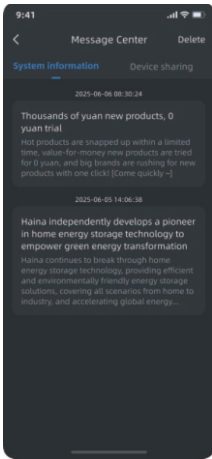

Figure 1
- 1) Figure 1: Display system or advertising messages, click to view message details.